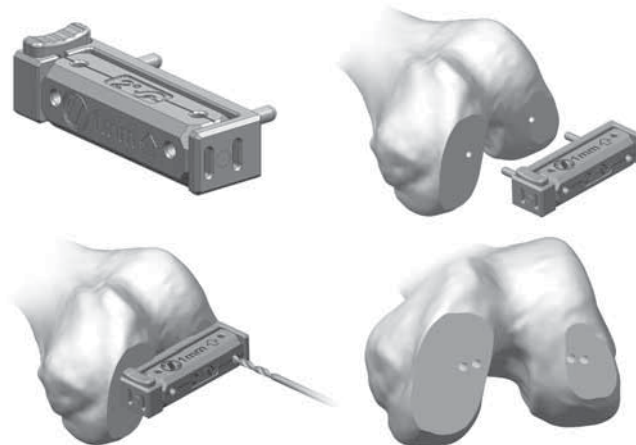

Fig. 25
- If needed, use the *Persona* Shift Block to adjust the *Persona* Posterior Referencing 4-in-1 Cut Guide rotation (2°) or AP position (1mm) prior to making any cuts with the *Persona* Posterior Referencing 4-in-1 Cut Guide. Place the pegs of the *Persona* Shift Block in the holes created by the *Zimmer FuZion* Sizer for the *Persona* Posterior Referencing 4-in-1 Cut Guide. Establish the new block position by drilling through the holes on the face of the *Persona* Shift Block that specifies the adjustment that is intended. Use a 3.2mm Drill to drill the holes (Fig. 25). Use the *Zimmer FuZion* 4-in-1 Cut Guide Adapter to verify the *Persona* Posterior Referencing 4-in-1 Cut Guide's new position is correct.